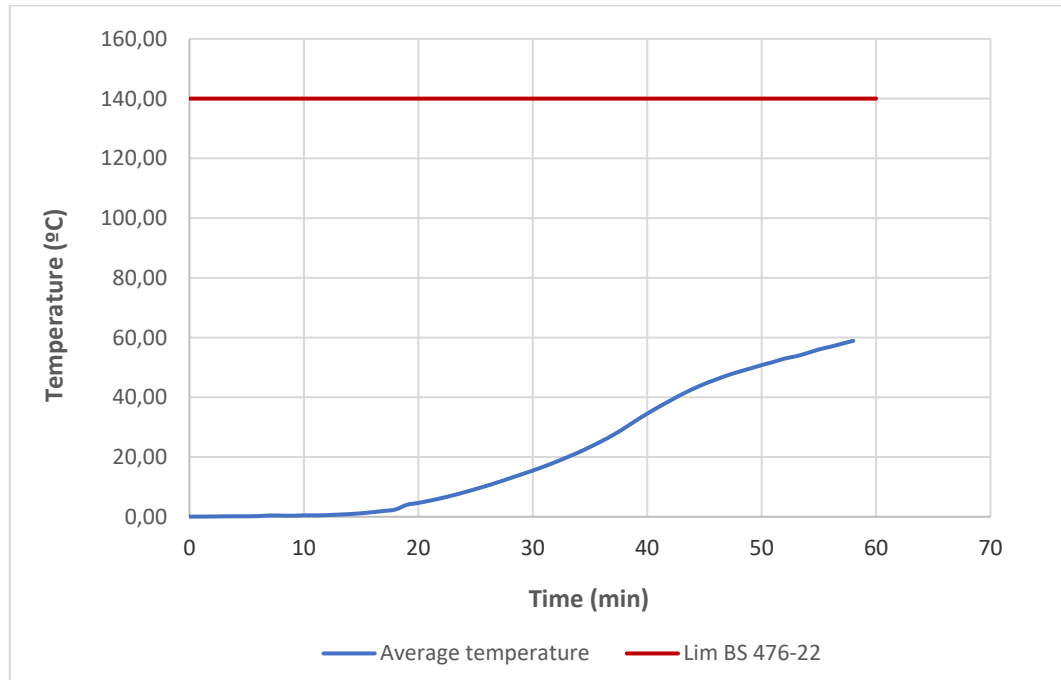

FIGURE 6
- 6.4 Figure 6 shows the average temperature of the individual thermocouples placed on the unexposed side to fire of sample 7521-3.